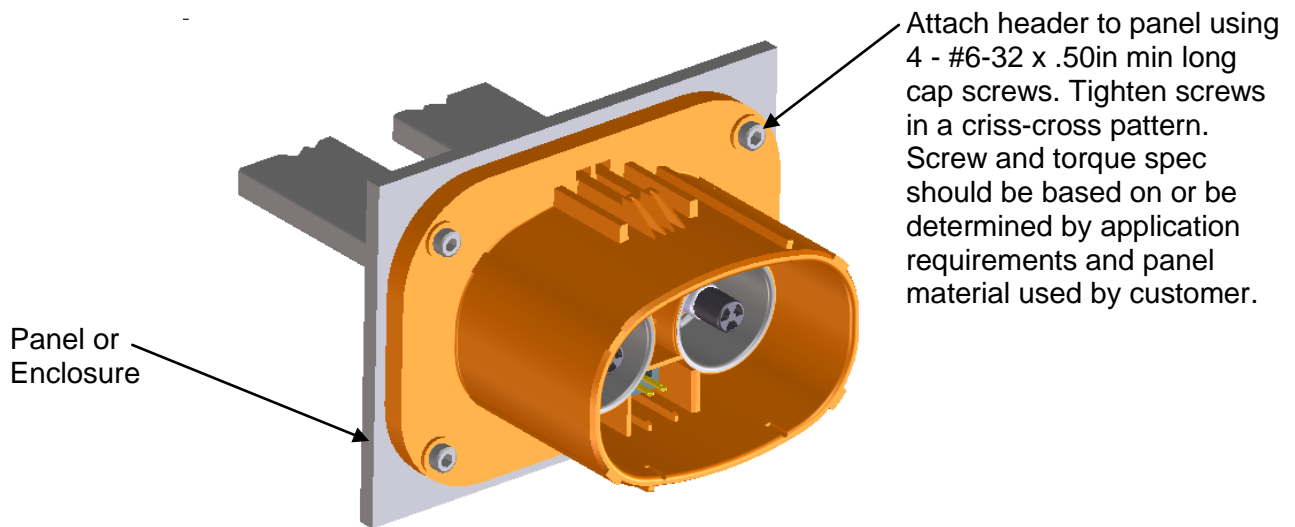

Figure 4
5.2 Attachment to panel per Figures 4 and 5